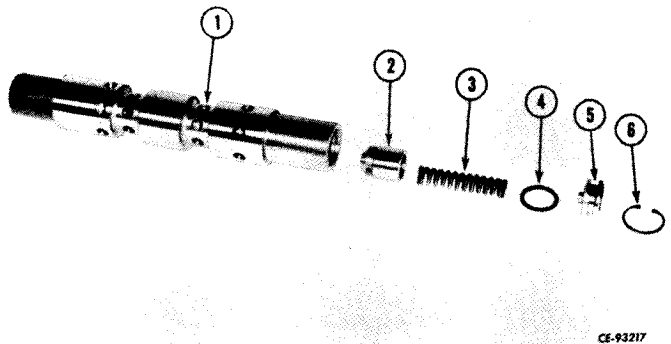

Figure 11-75
Remove the snap ring (6, Fig. 11-75) and slide the plug (5), spring (3) and check (2) from the plunger (1). Remove the "O"-ring (4) from the plug. Repeat the procedure for the opposite end of the plunger.